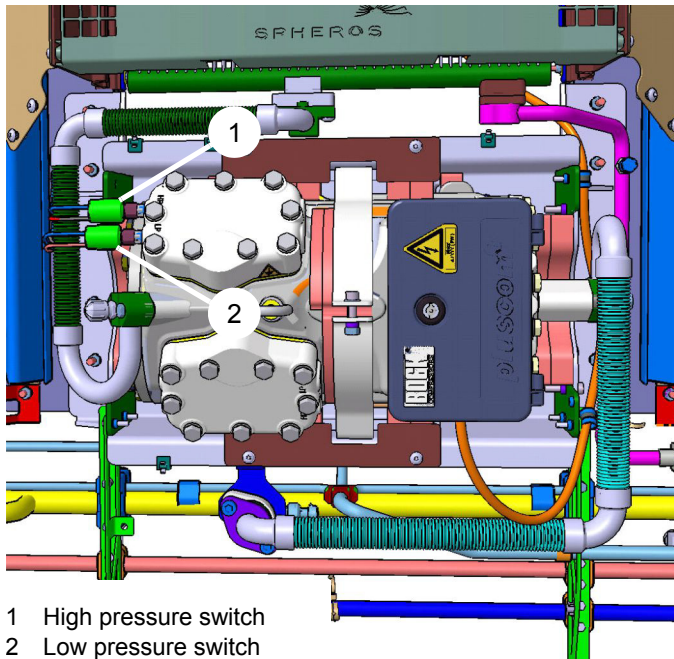

Fig. 910
- Unscrew filler valve (2, Fig. 910) from the pressure line.
- Separate SMA connection (3) from the pressure line on the condenser.
- Connect pressure line on the condenser with SMA connection (3).
- Screw filler valve (2, Fig. 910) into pressure line.